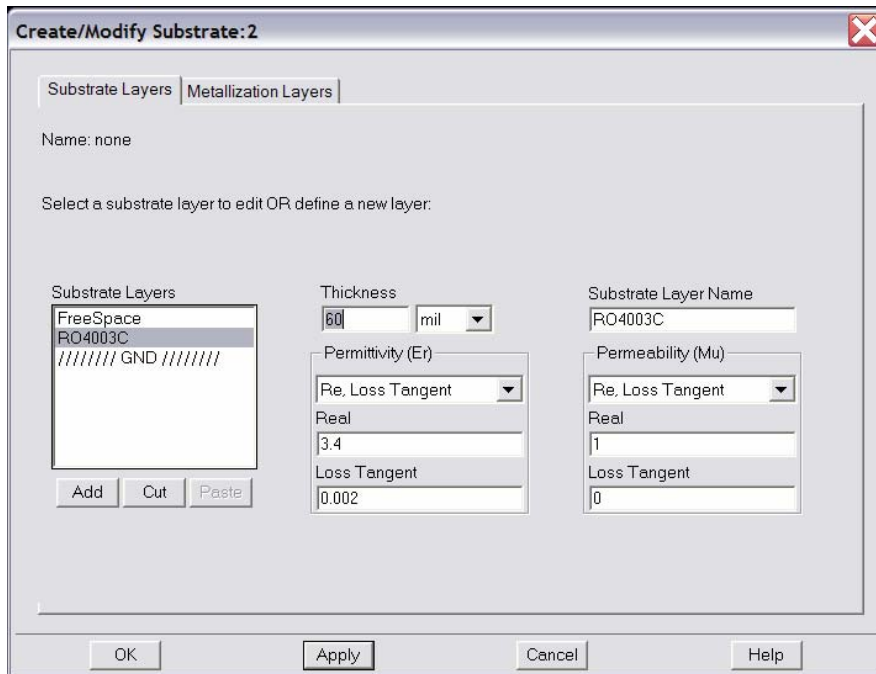

Figure 2.
2. Select “Momentum → Substrate → Create/Modify” item. The “Create/Modify Substrate” window pops up. This window is shown in Figure 2. In this window, you can define the substrate parameters and metal layers and properties all in one place. Under the “Substrate Layers” tab, you can define the layers of dielectric. In this case, we have a microstrip fed patch antenna that is fabricated on a 60 mil thick RO4003 substrate. Therefore, we have only one dielectric layer that has an infinitely large ground plane on one side and free space on the other side; the default dielectric layer is Alumina. You can change the name to RO4003C and change the thickness to 60 mils. Momentum allows for entering the dielectric parameters in three different formats. You can use the Real and Imaginary parts of the dielectric constant ($\epsilon_r = \epsilon' - j\epsilon''$), the real part of the dielectric constant in conjunction with its loss tangent ($\tan(\delta) = \epsilon'' / \epsilon'$), or the real part of the dielectric constant in conjunction with the conductivity of the material. In this case, we will use the “Real, Loss Tangent” option. You should keep in mind that in many circumstances, all three options are three different methods of representing the complex dielectric constant of the material. In the most general case, the complex dielectric constant of a material can be represented as $\epsilon_r = \epsilon' - j\epsilon'' - j\sigma / \omega$
3. In the same window, you can enter the magnetic properties of the material. In this case, the material that is used is nonmagnetic. Therefore, you should just make sure that the Real part of the magnetic permeability is 1 and the imaginary part is 0. At this stage, your window should look like the one presented in Figure 2.